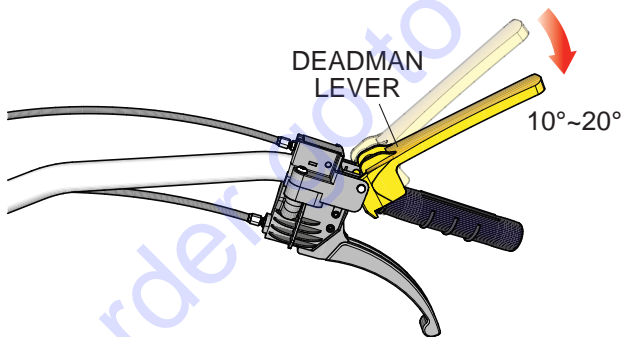

Figure 42. Deadman Lever Engaged (10°~20°)
2. With the engine **OFF**, push down on the **YELLOW** deadman lever (Figure 42) about 10°~20°.